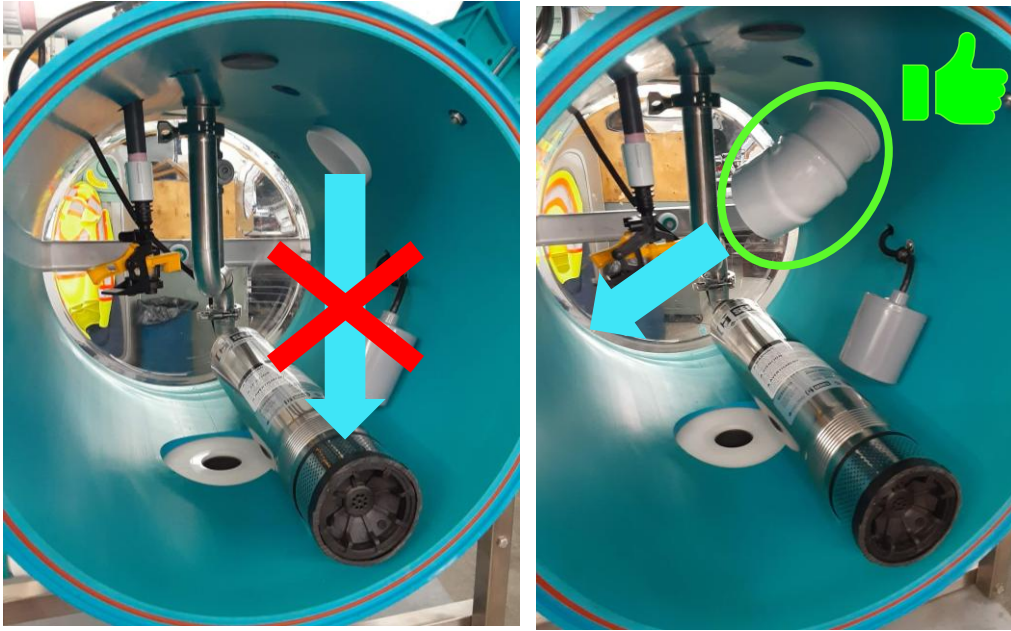

Figure 134: Installation of an angled bend inside the extractor to divert the maple sap flow in order to reduce air bubbles near the pump suction
- Add an angled bend in the extractor to prevent maple sap from running off at the pump suction (see Figure 134 below).